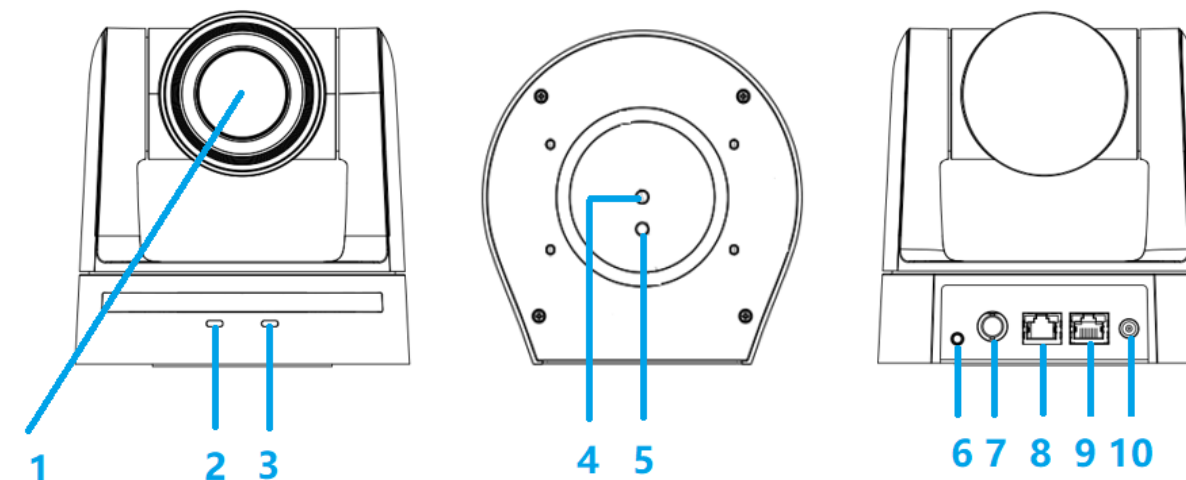

Figure 1.1 Interface of SDI Model
- a. Network Cable Connection Port: No.8 in Figure1.1